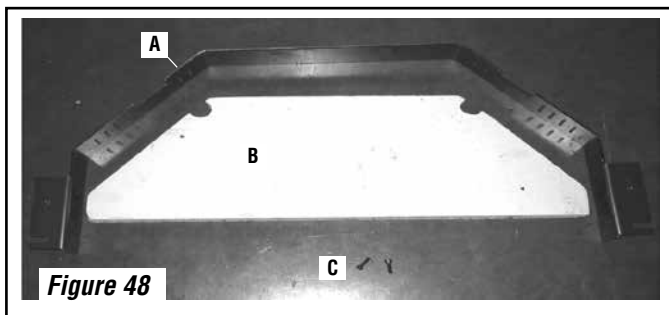
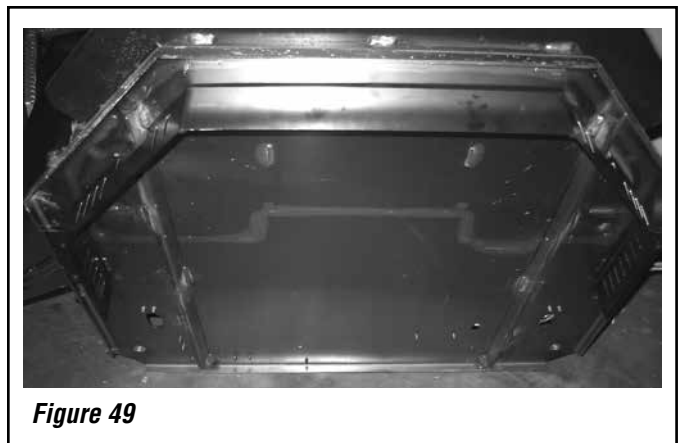

Figure 48
Figure 49
(Refer to Figure 48)
1. Install the 2" lower trim piece - Fasten the 2" trim piece underneath the base of the front of the insert as follows; use a 5/32" allen wrench or T-handle wrench to secure the 2 screws (see C in Figure 48) provided, one at the left side and one at the right side base of the insert. **NOTE:** This process will be simplified by very cautiously tilting the insert back (see Figure 49).